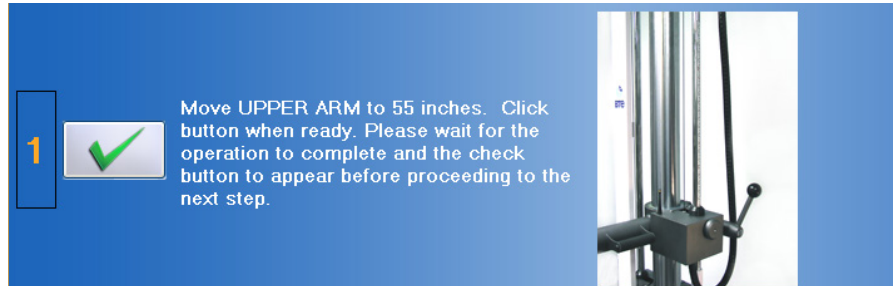

Figure 8-17. Column Upper Arm - Set the Initial Height
Step 2. Click on  to set the initial height (Figure 8-17).